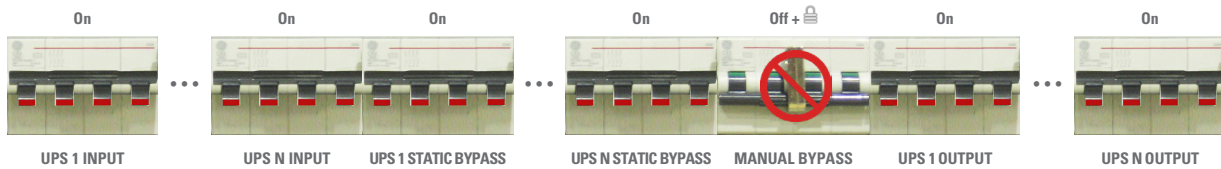

Fig. 12. Position of the bypass panel switches in «Normal operating» (with several UPS's).
- Turn the bypass panel switches «UPS 1 INPUT» to «UPS N INPUT» and «UPS 1 OUTPUT» to «UPS N OUTPUT» to «On». If the separate bypass line is also available (-B), turn the «UPS 1 STATIC BYPASS» to «UPS N STATIC BYPASS» switches from panel to «On» too. In the illustration of Fig. 12, it is shown the position of switches once the manoeuvring has been done.